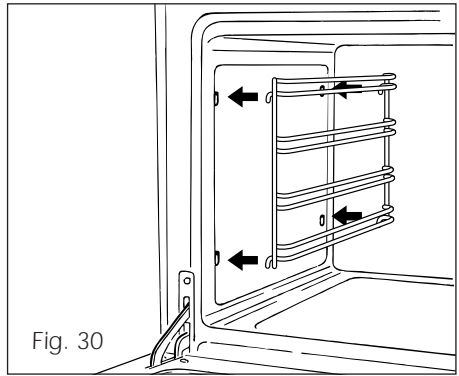

Fig. 30
- Fit the side runner frames into the holes on the side walls inside the oven (Fig. 30).